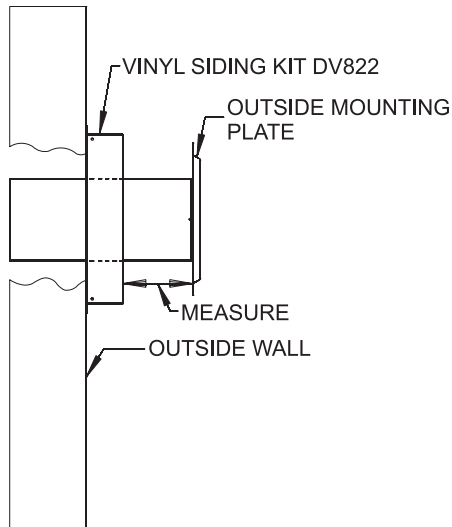

Figure 60
6. With the vinyl siding kit installed to wall (if necessary), insert the 6 5/8" (168mm) diameter tube with outside mounting plate attached through hole in wall. Connect to collar on fireplace or rigid vent system. Measure between wall or vent cap extension and outside mounting plate. See Figures 60 and 61.